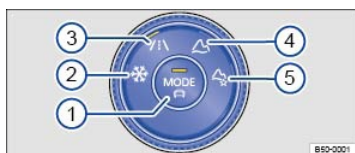

Fig. 129 In the lower center console: 4MOTION Active Control.
Key to ⇒ Fig. 129:
- Turn the knob until the desired driving mode lights up ⇒ Fig. 129.
- Turn the knob until the Custom offroad icon lights up ⇒ Fig. 129⑤.
- Press the Driving Mode Selection button ⇒ Fig. 129①. Information about the selected driving mode appears in the Infotainment system and the instrument cluster display.
- **OR:** Turn the 4MOTION Active Control to the Onroad setting ⇒ Fig. 129③.
The light in the Driving Mode Selection button ⇒ Fig. 129① lights up when a mode other than **Normal** has been selected.
- Turn the 4MOTION Active Control knob to the Onroad setting ⇒ Fig. 129③.